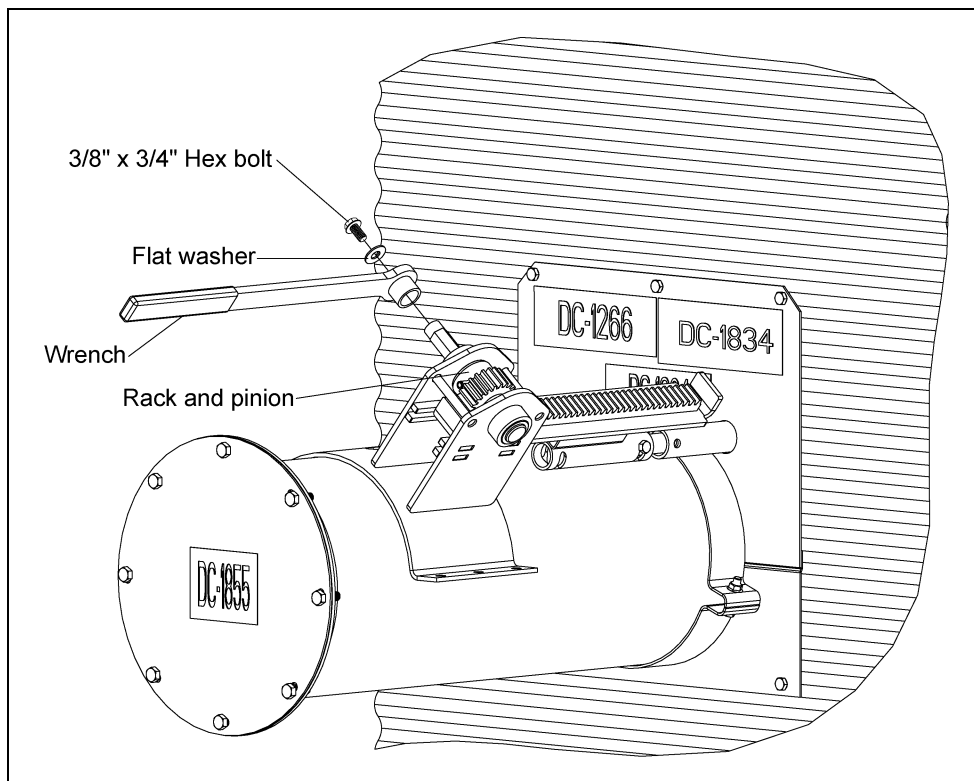

Figure 2
4. Slide wrench assembly over shaft on rack and pinion. Make sure the collar faces the gears. Fasten down with 3/8" flat washer and 3/8" x 3/4" hex bolt. *(See Figure 2 on Page 2.)*